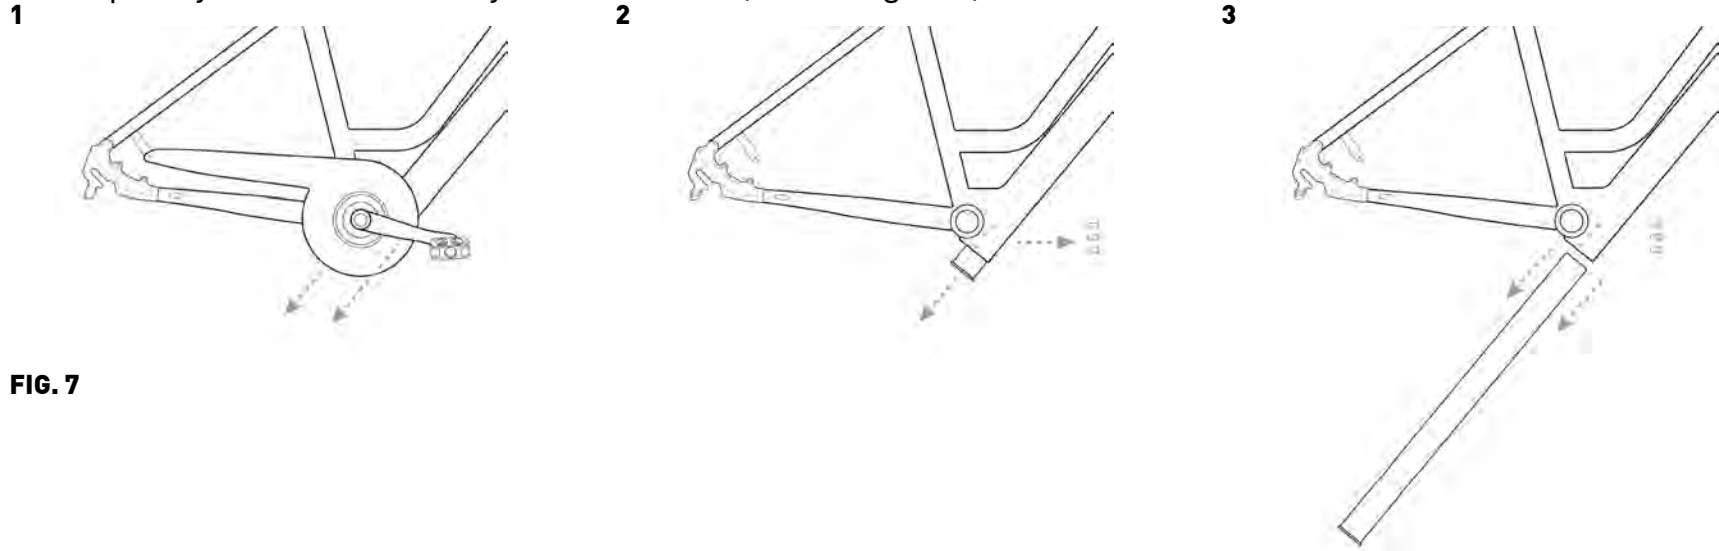

FIG. 7
1. Disassemble the chain cover and cranks to access the three battery fixing screws on the right side of the frame (RIF.1 - Figure 7);
2. Remove the three screws from the frame and gently remove the battery from its housing (REF.2 - Figure 7);
3. Completely remove the battery from the frame (Ref. 3 - Figure 7).